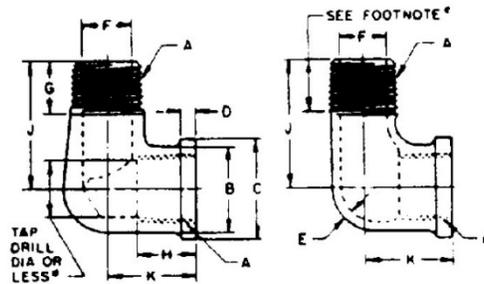

Figure 8 - 90-degree street elbows (130239)
Table 5 - Dimensions of cast-type street elbows and pipe tees (Figures 8 to 12)
4. Hole diameters may be reduced beyond tap drill depth H, but shall not be less than F specified for corresponding size. (See Figure 8.)
5. Minimum pipe thread length where body is relieved or undercut shall not be shorter than L2 plus one turn (thread) full thread. Thread length may be reduced one pitch (thread) if thread is cut through into relief or undercut. See SAE J476 and Figure 8.